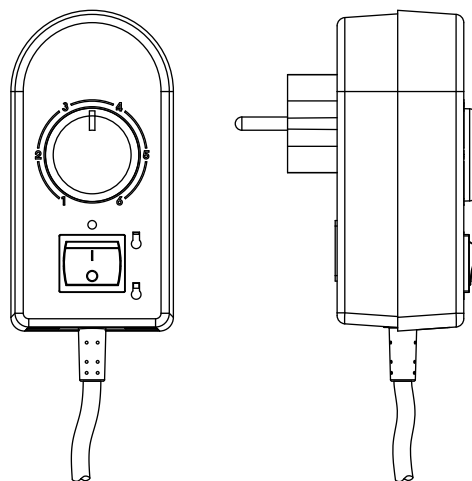

Fig.2
**The R10A regulator must always be positioned vertically in the socket** in such a way that the cable outlet from the regulator always comes out at the bottom (see Fig.2). No other operational positioning of the regulator is permissible.